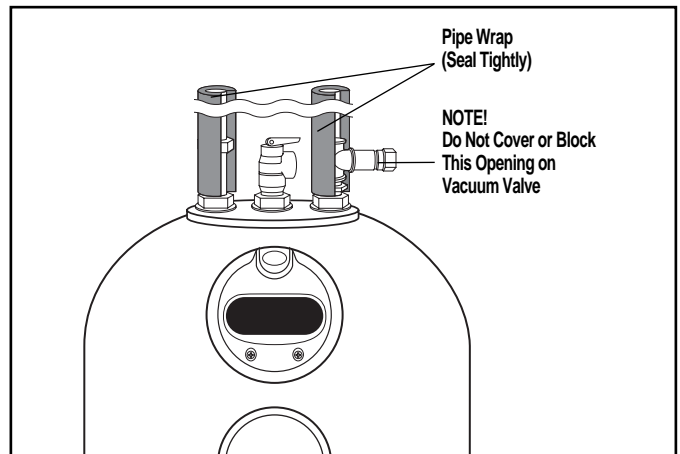

Figure 8 — Pipe Wrap
8. **PIPE WRAP** — To realize maximum energy savings, all exposed pipes should be insulated. However, most of the energy losses occur close to the water heater. Install one piece of insulation on the cold water supply line and one piece on the hot water line. (Refer to Figure 8). Install the pipe wrap as close to the water heater as the installation allows. Make sure fittings are covered and the joint in the pipe wrap is sealed.